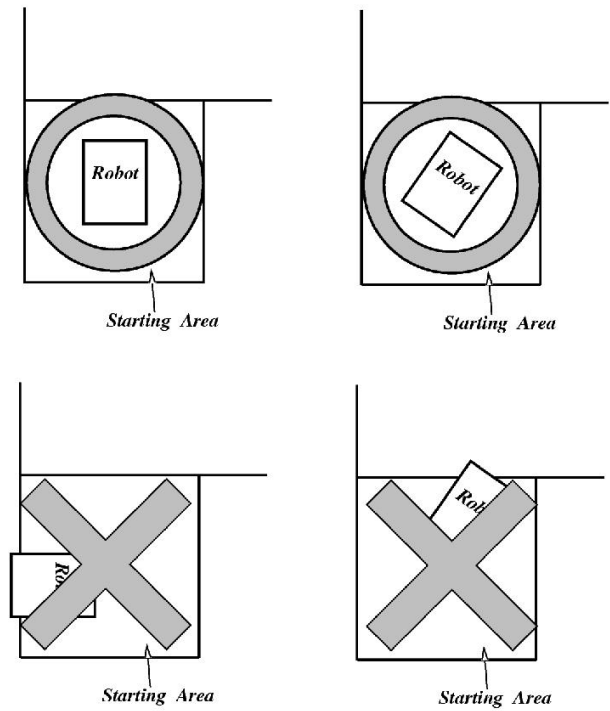

Fig 6: Starting position of the Robot
- (2) The robot must be placed inside the starting area. The robot's initial condition can be chosen as the competitor pleases. It can be set to any direction, refer to Fig. 6. Cables [8] or other peripherals are not allowed to be placed on the table except on the starting area.
- (3) If multiple robots are used, starting each of them should be done once. This mean, that, the competitor cannot start one robot, and wait for some time and start again the other robot.